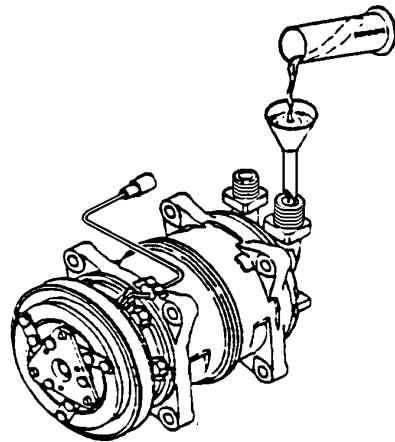

Figure 8: Typical Compressor Oil Fill Procedure
4. Add oil to the compressor through the suction port as shown in Figure 8.